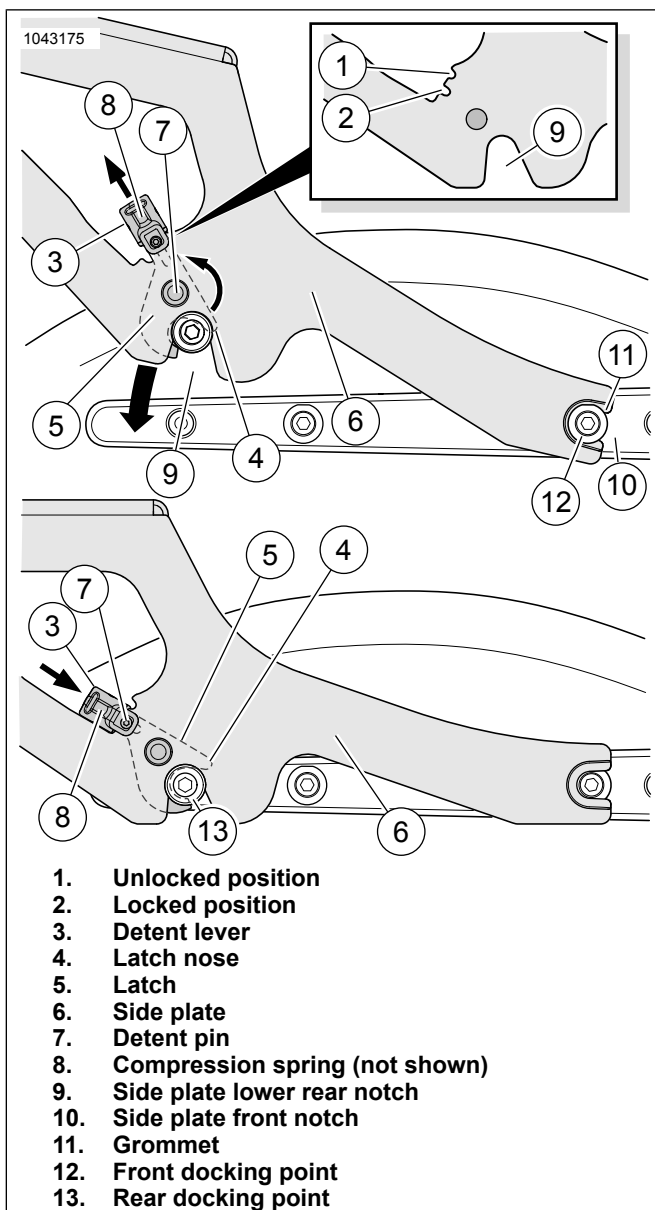
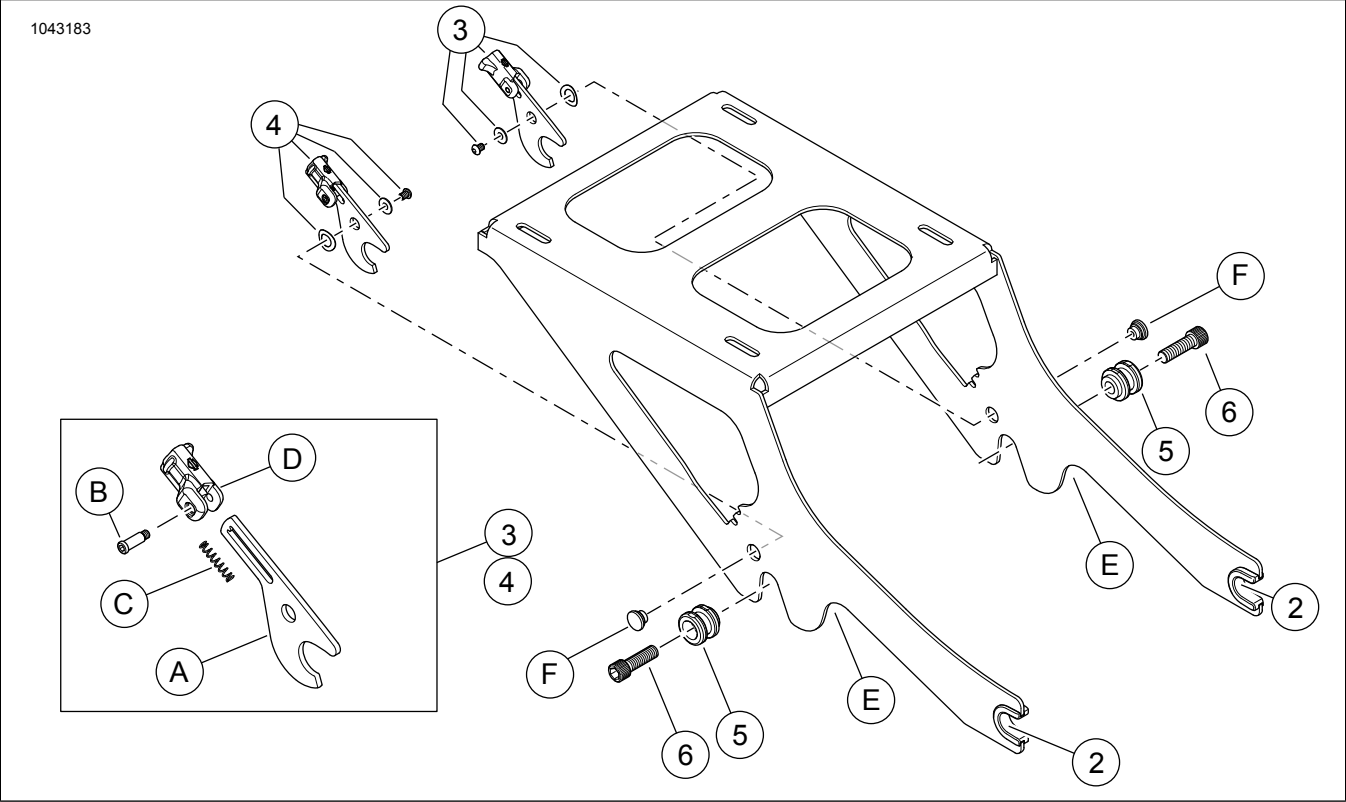

Figure 1. Detachable Two-Up Tour-Pak Mount Installation
Figure 4. Service Parts, Detachable Tour-Pak Mount Kits
Refer to Figure 4 and Table 1.
2. See Figure 4. Apply threadlocker to bolts (6).
1. See Figure 4. Position the right (4) and left (3) latch levers in the unlocked position as shown in Figure 1, upper view (Item 1).
- a. Pull both detent levers (3) rearward against the compression spring (8, not visible).
- b. Rotate the levers upward so each latch nose (4) is positioned inside the lower rear notch (9) of the side plate (6).
- c. Each detent pin (7) is now located in the uppermost (unlocked position) notch.
- d. The compression spring (8) inside the detent lever holds the latch (5) in the unlocked position.
2. Push the Tour-Pak® mount front notches (10), with grommets (11) in place, firmly and evenly into the front docking points (12).
3. See Figure 1, lower view. Swing the rear of the Tour-Pak mount side plates (6) downward toward the rear docking points (13).
- a. As the side plates (6) move down, the latches make contact with the plastic surface of the rear docking points.
4. As the docking points contact the latches, each latch nose (4) is forced upward.
- a. This causes the pin (7) to move down into the lowermost (2-locked) position on the side plate.
- b. The springs (8) lock each latch firmly in place around the rear docking points.
5. Make sure that detent pins (7) are fully seated against the side plates (6).
- a. If not fully seated, push detent lever (3) forward.
- a. As the levers rotate upward, the latch noses (4) are forced against the rear docking points (Figure 1, Item 13).
- b. This raises the rear of the Tour-Pak mount side plates (6) out of the docking points.
3. Release the detent levers. The springs (8) will move each lever back into the unlocked position (1).